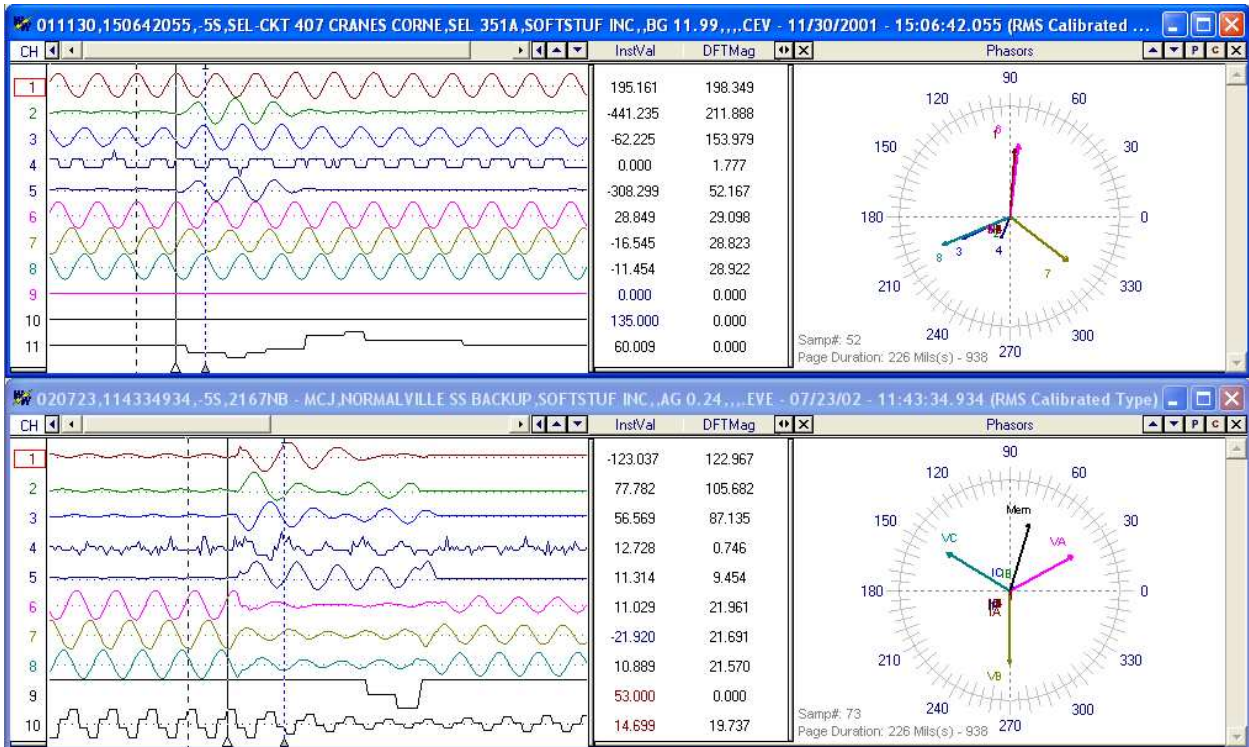

Figure 1.72 Merge Open Files – Manually: Select Channels & Position Data Bars
- Manually: Use the data bars to highlight where the common sample time is in each window. Merge manually will then line up the data bars and adjust the time stamps accordingly. This option is used when the file times are not synchronized. The active window determines the time stamp of the new merged file and the open window with the smallest number of samples determines the length of the new merged file. Refer to Figure 1.72 & 1.73.